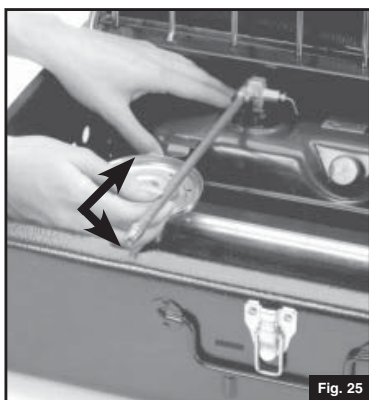

Fig. 25
- The tank fits in the left end of stove with VALVE WHEEL fitted under rear lip of case. (Fig. 25)